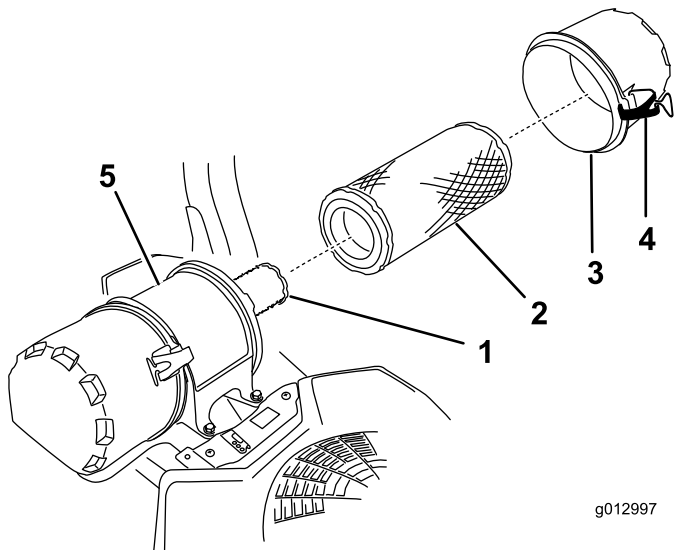

Figure 44
6. Release the latches on the air cleaner and pull the air-cleaner cover off the air-cleaner body (Figure 44).
8. Gently slide the primary filter out of the air-cleaner body (Figure 44).
1. To replace the safety filter, carefully slide it into the filter body (Figure 44).
2. Carefully slide the primary filter over the safety filter (Figure 44).
3. Install the air-cleaner cover and secure the latches (Figure 44).